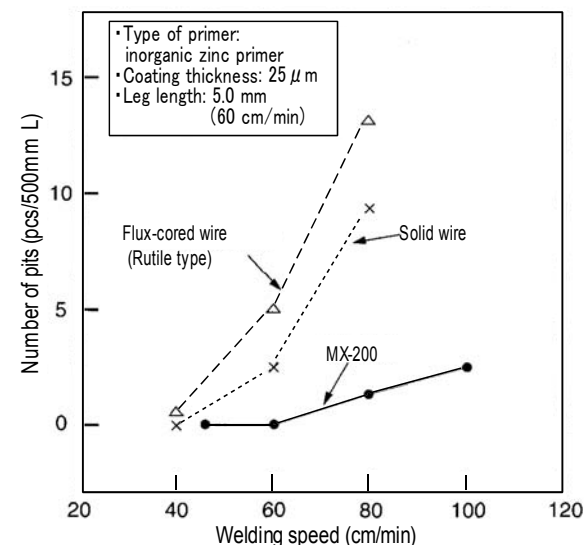
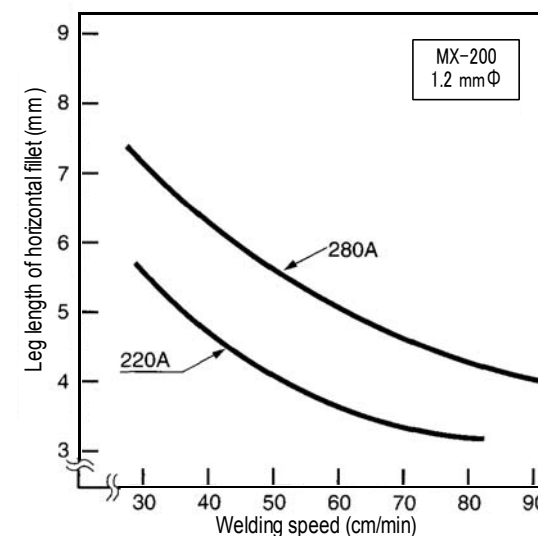

Fig. 1 Porosity resistance to primer
Fig. 2 Horizontal fillet leg length vs. welding speed
- (1) Because the wire is softer than solid wire, do not excessively tighten the pressure roller of the wire feeder so as not to cause the deformation of the wire.
- (2) In flat butt welding, backhand technique is better for stable penetration. In horizontal and overhead fillet welding, forehand technique is better for flat bead appearance.
- (3) In vertical down fillet welding, the first layer run should be straight and keep the welding speed faster to avoid slag inclusions and to get better penetration. For the 2nd and subsequent layers, remove the slag of preceding beads and avoid weaving.
- (4) In one-side welding, welding parameter should carefully be selected to prevent welding defects such as hot cracking.
- (5) In horizontal fillet welding of primer-coated plates, porosity defects such as pit and gas hole are apt to occur; therefore, the selection of proper wires and welding parameters suitable for welding primer-coated plates are essential. Figure 1 shows the relationship between welding speed and the number of pits occurred in the weld metal. Figure 2 shows proper welding speeds related to fillet leg lengths.